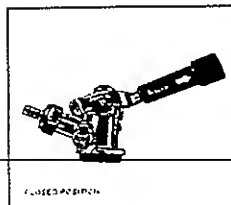

Fig 7
- Insert the keg coupler provided into the locking neck of the beer keg and turn it clockwise to lock into position, making sure the keg coupler is in the closed position. (See Figure 7)